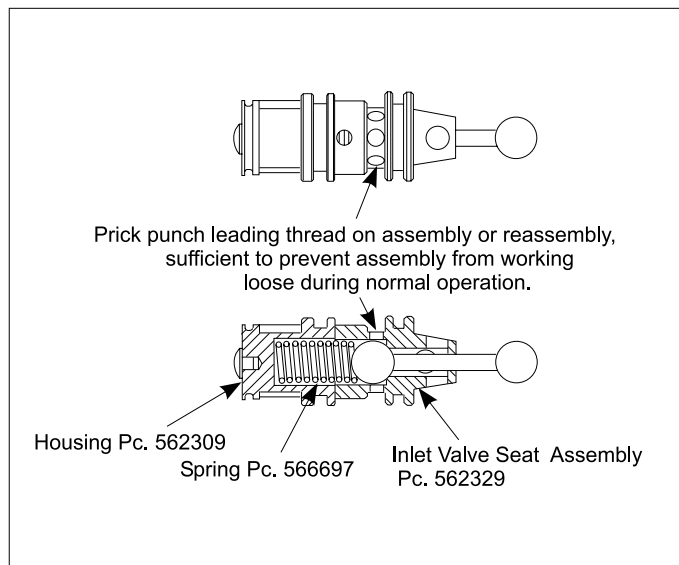

Figure 4 - Inlet and Exhaust Valve Unit - ASSEMBLY
3.5.10 Disassemble the inlet and exhaust valve unit (8) as follows: (Refer to Figure 4)
3.7.2 Assemble the inlet and exhaust valve unit as follows: (Refer to Figure 4).